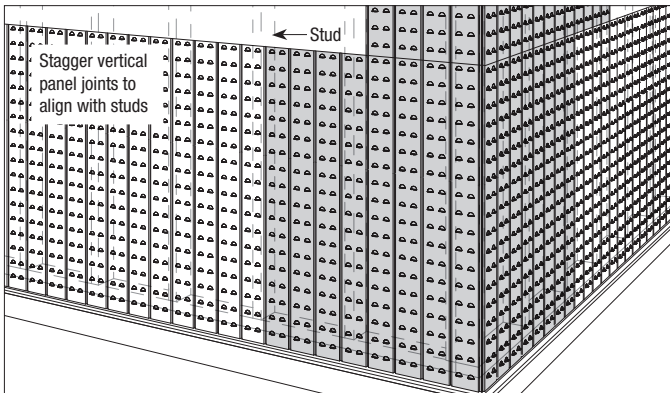

FIGURE 7
- Rest the second row of panels on top of the first row. Stagger vertical panel joints between rows by beginning each row with panels having different dimensions. Establish stagger by cutting the first panel in every other row of panels to the length required to end at the center of a stud (see Figure 7).